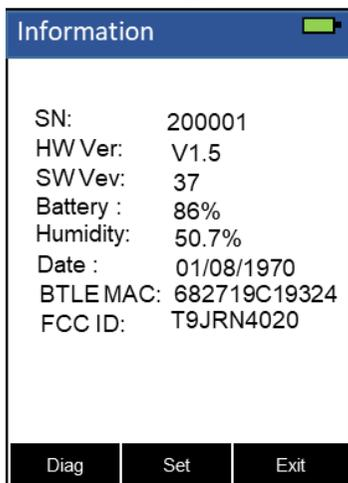

Figure 25
The **Information** screen is launched when System () is pressed while not in an ongoing measurement procedure. This screen contains the device serial number, software version, and hardware version (Figure 25). The battery life as a percentage and the MAC addresses for main module also shown in 26 Figure .
Press **Diag** () to launch the diagnosis screen where raw measurement data are displayed (Figure 25 Figure). The information has no use for normal operation, but instead is used for device troubleshooting. Provide an image of both the Information screen and the diagnosis screen when you contact service@pyxis-lab.com for troubleshooting your device or call +1 (866) 203-8397.
1. Power on the SP-208 by pressing (OK).
2. Press **System** (OK) as needed to launch the Information screen as show in figure25.
3. Press **Diag** (←) to launch the diagnosis screen. The display updates as shown in Figure 25 *Figure.*
5. Press **OK** (OK) to start the factory reset.